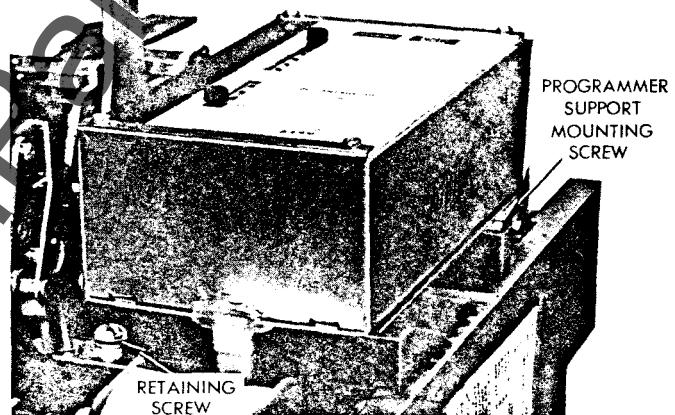
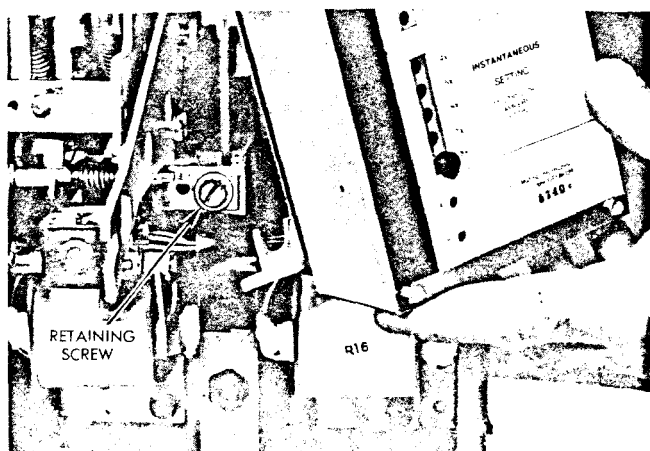

Fig. 2
Fig. 3
- a. Loosen captive programmer support mounting screw, Fig. 2.
- b. Slide programmer assembly beyond retaining screw as shown in Fig. 3. Do not remove retaining screw.
- b. Reinstall programmer, see Fig. 3 and secure support mounting screw, see Fig. 2.